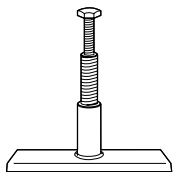

Fig. 1
- Pre-compression tool (fig. 1) is a solution when help is needed to hold modules and stayplates in place during installation.